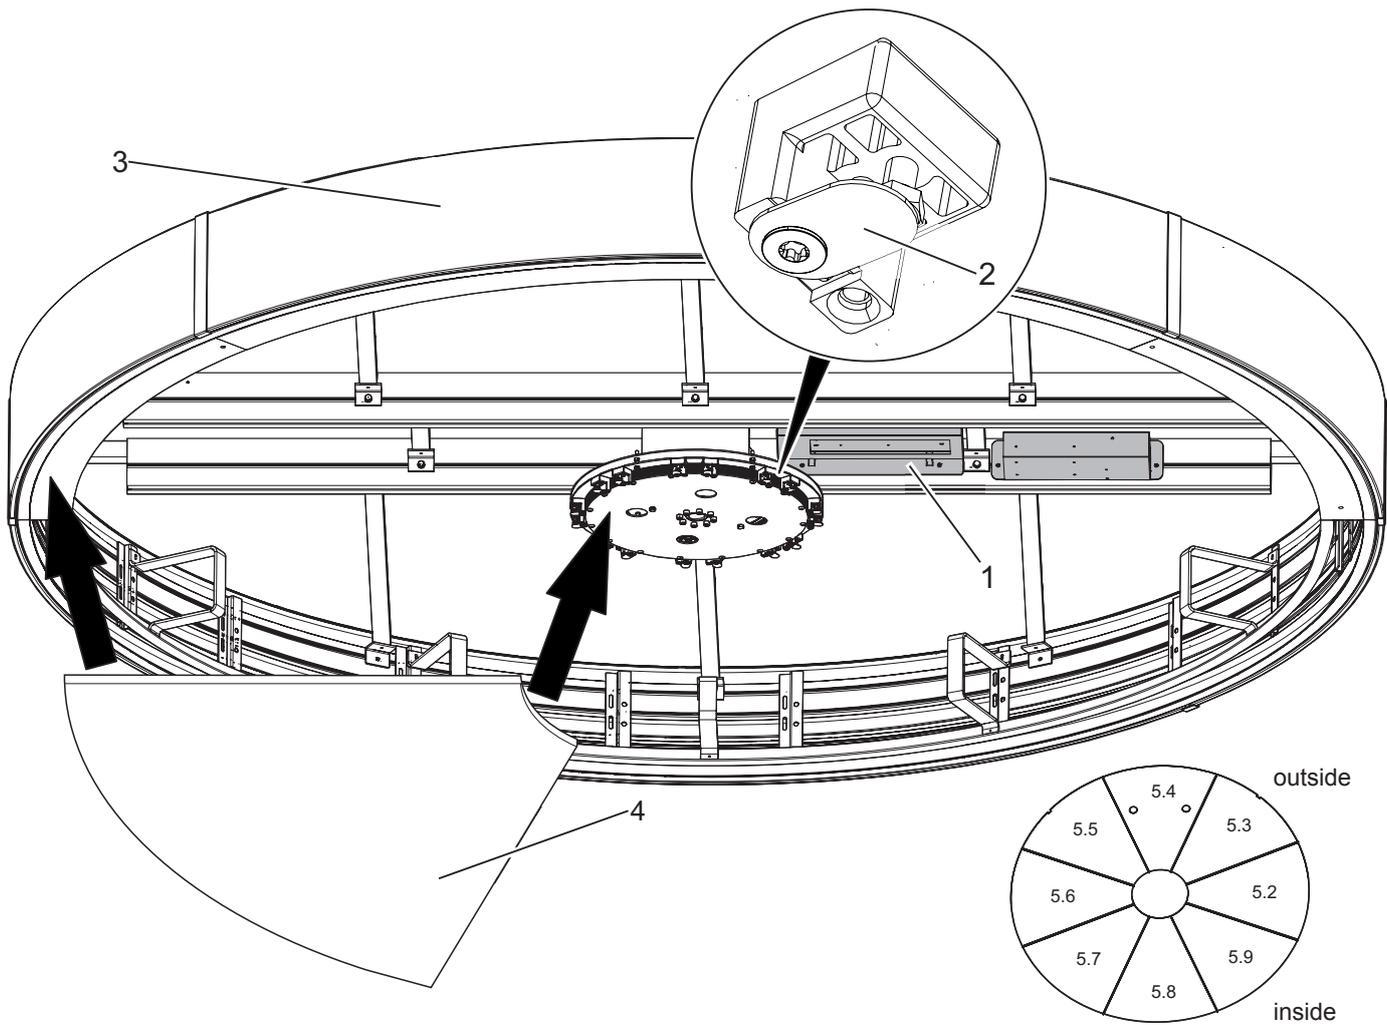
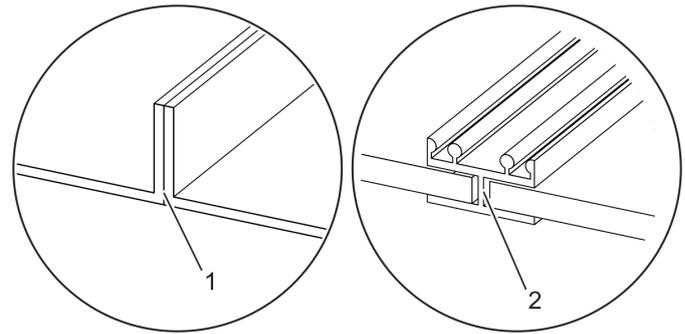
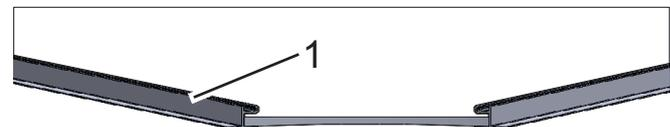

Fig. 143 Inserting lower ceiling elements
Fig. 146 Sheet metal / wooden lower ceiling
Fig. 147 Joint cover
4. Turn the metal shim (Fig. 143/2) toward the center of the operator.
Lay cables for light installation to controller (Fig. 143/1) in ceiling structure (Fig. 143/3) and connect. Follow the installation and wiring diagram.
5. Insert the lower ceiling element (Fig. 143/4) on the support points marked with arrows between holder (Fig. 143/2) and ceiling structure (Fig. 143/3) and turn the metal shim (Fig. 143/2) back.
Follow the overview plan (Fig. 143) for insertion of the lower ceiling elements!
6. Tighten fixing screw in the metal shim (Fig. 143/2).
11. Tighten the height adjustment (6x) (Fig. 143/1) on the circumference of the operator with nuts.
Insert the remaining lower ceiling elements (Fig. 143/4) on the support points marked with arrows between metal shim (Fig. 143/2) and ceiling structure (Fig. 143/3) and turn the removal protection (Fig. 143/2) back.
14. Tighten the removal protection (Fig. 143/2) and adjust to the material thickness of the lower ceiling element.
15. With a lower ceiling from sheet metal, insert the individual lower ceiling elements (Fig. 143/4) flush next to each other (Fig. 146/1).
16. With a wooden lower ceiling, cover the joint between the lower ceiling elements (Fig. 143/4) with a joint cover (Fig. 146/2). Use a joint cover as shown in Fig. 147/1 for the last lower ceiling element.
17. Tighten screws in the metal shim (Fig. 143/2).